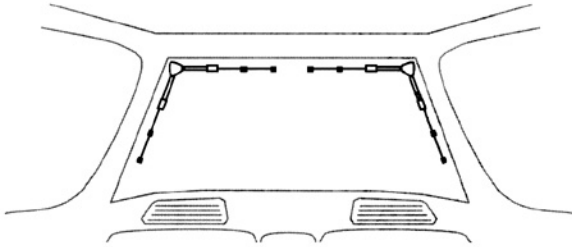
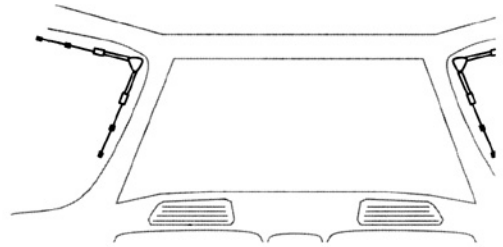

Fig 1
Fig 2
- For optimum reception, mount the antenna with the angle between the elements facing down.(Fig 1 or Fig 2)